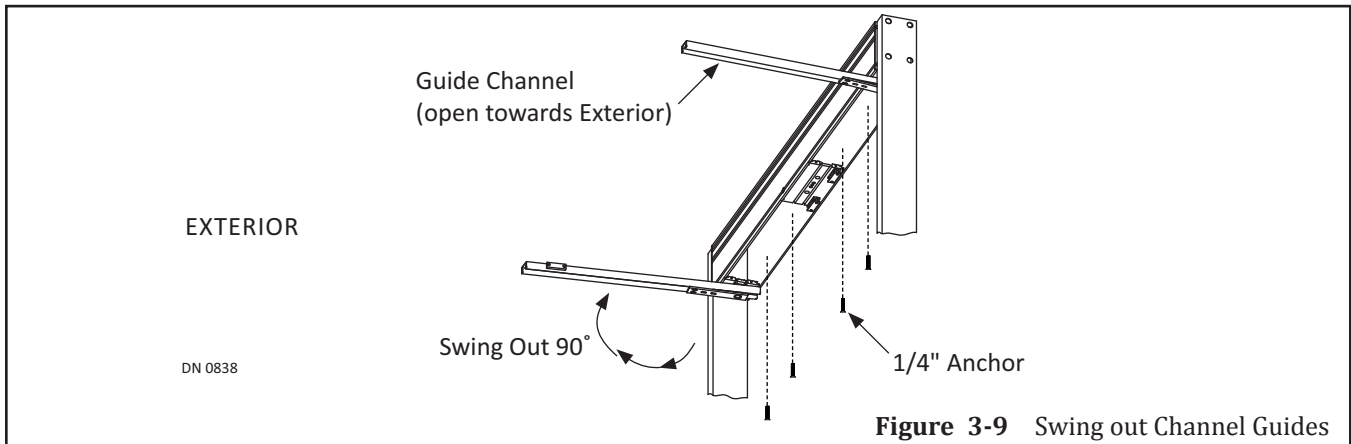

Figure 3-9 Swing out Channel Guides
2. Swing the Guide Channel out and away from the Magnetic Latch. Please see Figure 3-9.